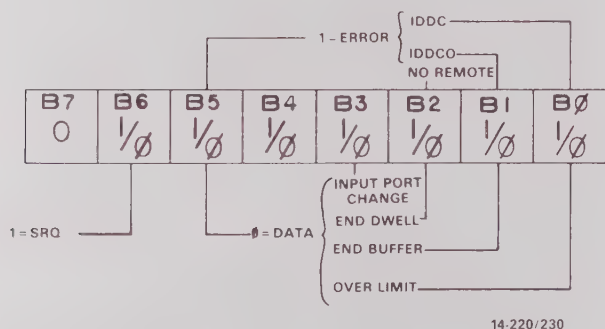

Figure 4-3. Status Byte Format
**Status Byte Format**-The status byte contains information relating to data and error conditions within the instrument. The controller obtains the status byte by using the serial polling sequence described in paragraph 4.2.8. Once the byte resides in the computer, the information in Figure 4.3 can be used when interpreting data and error conditions.